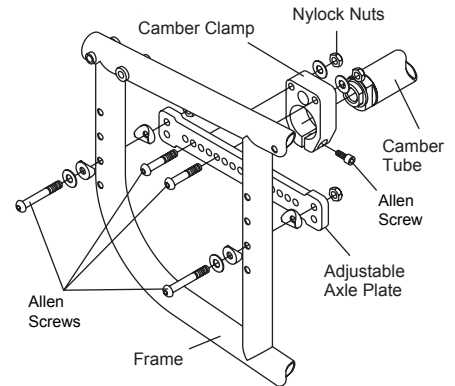

Figure 72
3. Remove the four Allen Screws (two on each side of the chair) that secure the adjustable axle plates to the frame. Carefully note the order in which the various washers and nuts (and any other parts, such as anti-tip receptacles) were originally installed on your chair as you will need to reinstall all of these parts in the exact same order in Step 5 below. See Figure 72.
Note: The camber tube may be mounted either above or below the adjustable axle plate. In most instances, making a rear seat height adjustment will not require reversing this configuration. However, if necessary you can reverse the direction of the adjustable camber clamps to switch the position of the camber tube from above the adjustable axle plate to below it or vice versa. See Figure 72.
2. Remove the four Allen Screws (two on each side of the chair) that secure the camber clamps to the adjustable axle plates. See Figure 72.
2. Loosen, but do not remove, the Allen Screw that secures the camber tube to each camber clamp. See Figure 72.